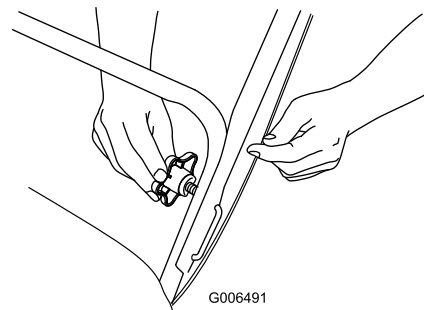

Figure 5
2. Insert the end of the U-shaped handle lock into the open hole in the handle and tighten the handle knobs until they are snug (Figure 5).